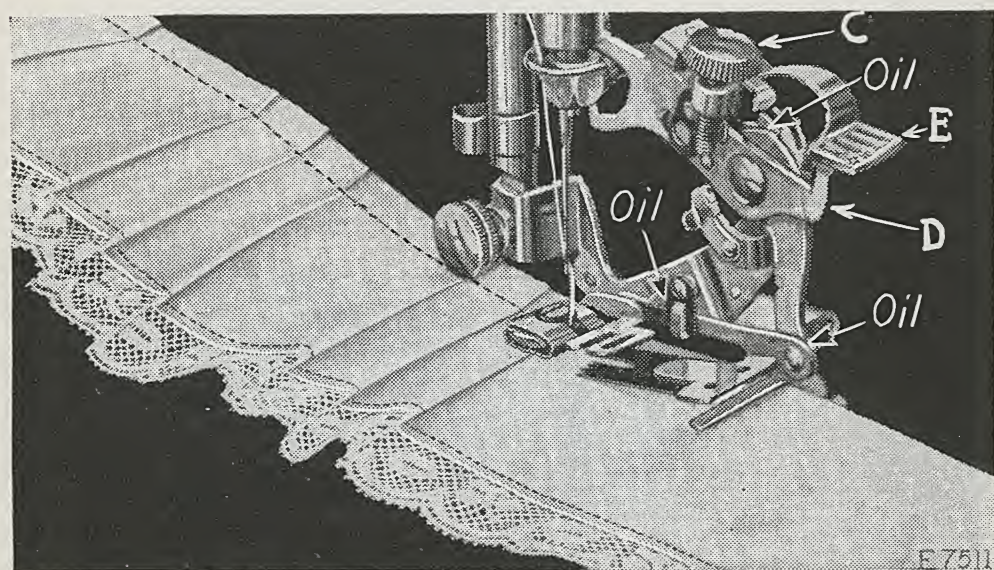

FIG. 46
The ruffler can be adjusted for group plaiting by lifting the adjusting lever (E, Fig. 46) and moving
it to the right so that the top of the projection (D, Fig. 46) enters the small slot indicated by the star on the adjusting lever. This should be done at the points where you wish to make the space between the plaits. The ruffler will then stop and plain stitching will be made. When the desired space has been made, adjust the lever (E) so that the projection (D) enters either the slot marked "6" or the slot marked "12". By alternately making groups of plaits and plain spaces, as shown in Fig. 46, very attractive work can be produced.
Occasionally apply a drop of oil to the working parts of the ruffler at each of the places indicated by arrows in Fig. 46. After oiling, operate the ruffler on a waste piece of material to prevent the oil soiling the work. If the ruffler does not plait evenly, a drop of oil may remedy the trouble.